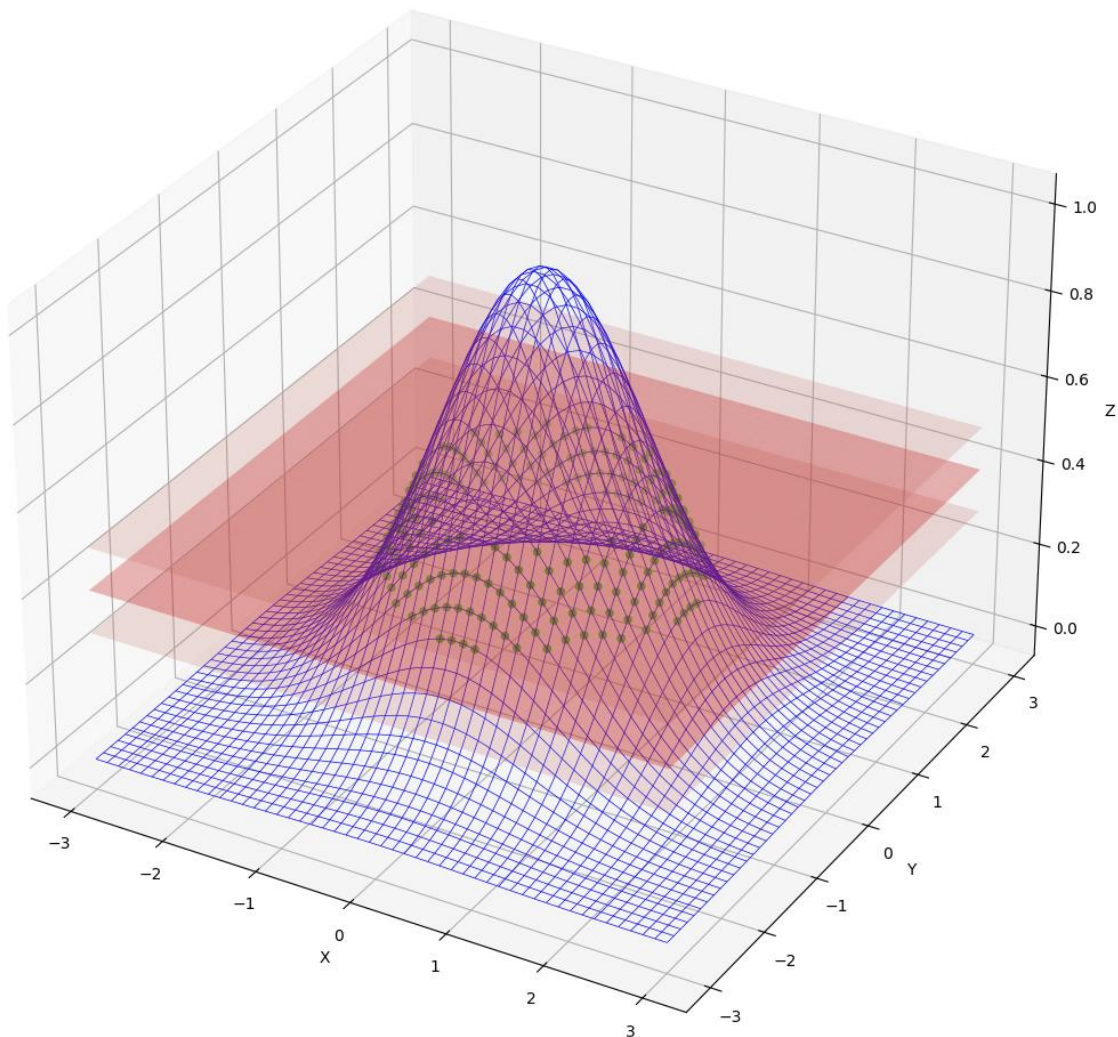

Figure 3 Intensity planes and highlighted input data for ellipse generation
The concept is shown in the Figure 3. The selection "Ellipse level" is represented by the darker plane, the amplitude tolerance is shown by the two lighter planes below and above the main amplitude level planes. All data points, which are in between the two lighter planes, are marked with a green circle. These are the points, which will be used for the ellipse generation. Ellipse height and width will be determined and displayed. The two main axes of the ellipse can be used as axis for the beam intersection. The ellipse height and width depends of course strongly on the set limits for amplitude level and tolerance, therefore these values can be used only as a rough estimate, but do not represent any ISO conform value. If 50 % for the amplitude level is selected, ellipse height and width are equal to the half power beam width (HPBW).
Ellipse level (4): Ellipse level allows to set the middle virtual intensity plane (darker color in Figure 3), either based on the data of the whole image or the selected AOI, if any. The ellipse level can be determined in 10 % steps, ranging from 10 to 90 % between zero and the maximum intensity in the image/AOI. It is also possible to type into the box. Ellipse levels >99 % and <1 % are not allowed, signified by red font color. Refer to Ellipse Calculation and the subsequent explanation for more information regarding the ellipse calculation.